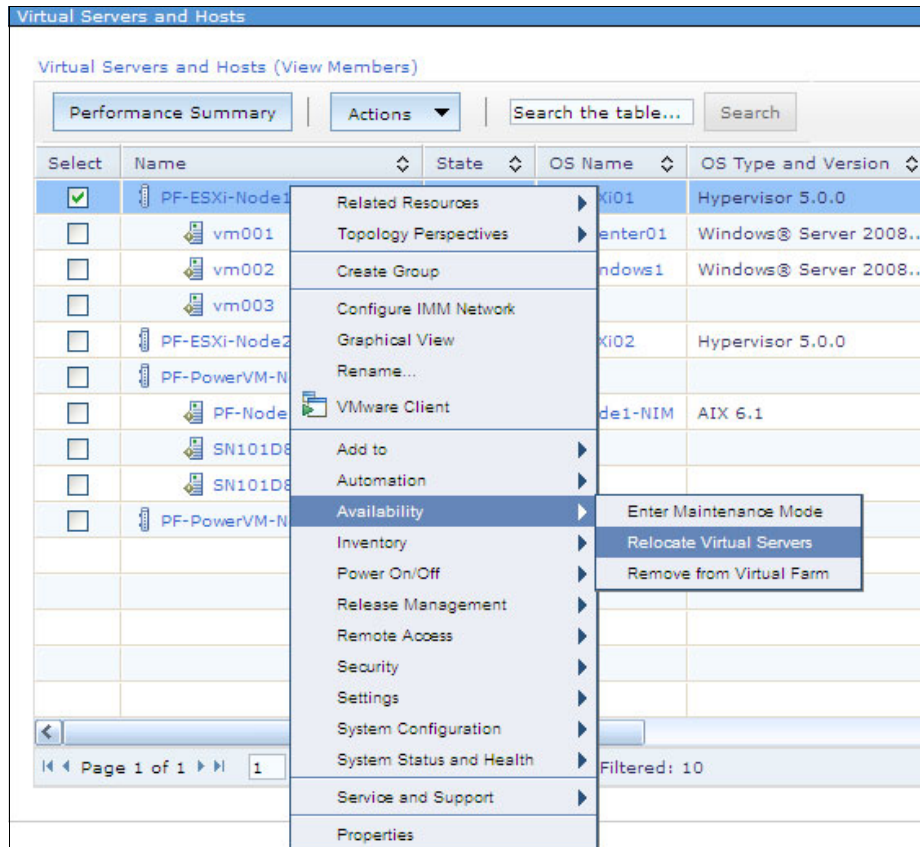

Figure 11-32 Relocate Virtual Servers menu item for the selected host
1. Right-click the host (**PF-ESXi-Node1**) and select **Availability** → **Relocate Virtual Servers**, as shown in Figure 11-32.